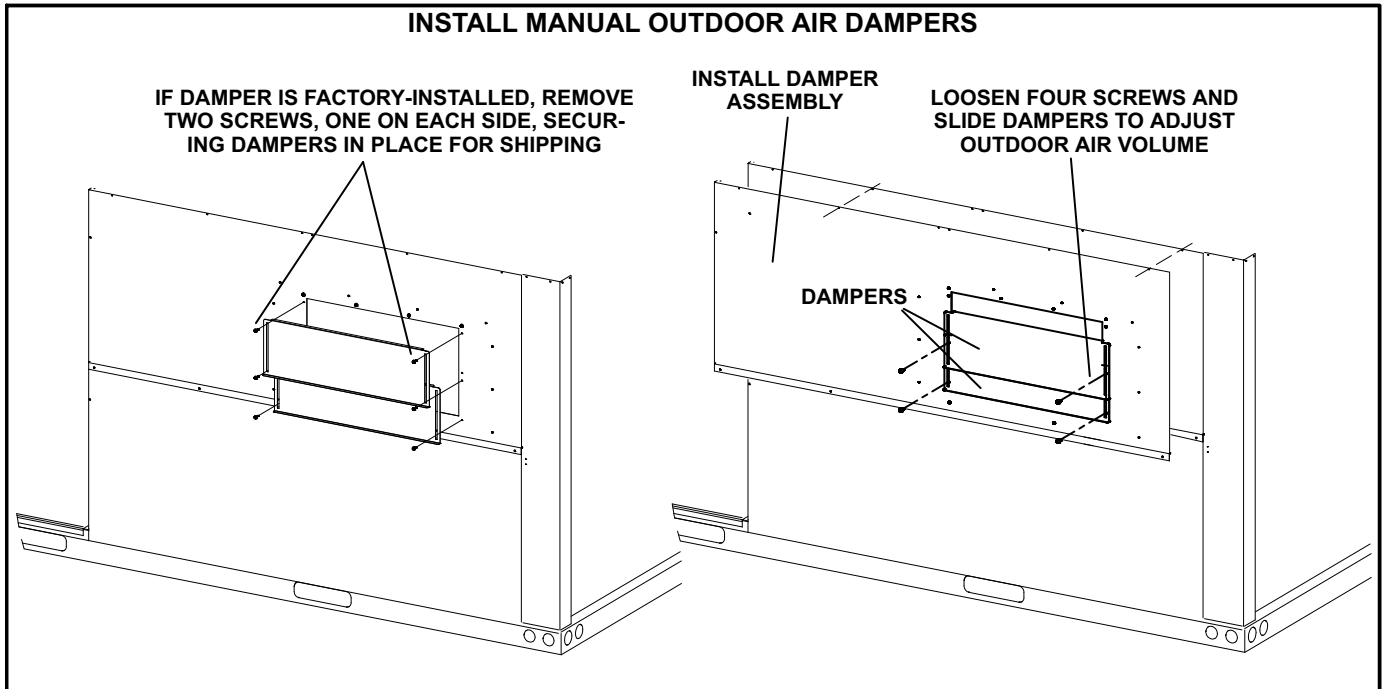

FIGURE 8
- 5- Install damper assembly into top rear access opening. See figure 8. Secure with retained screws.
- 6- Remove two screws securing dampers in place for shipping. See figure 8.